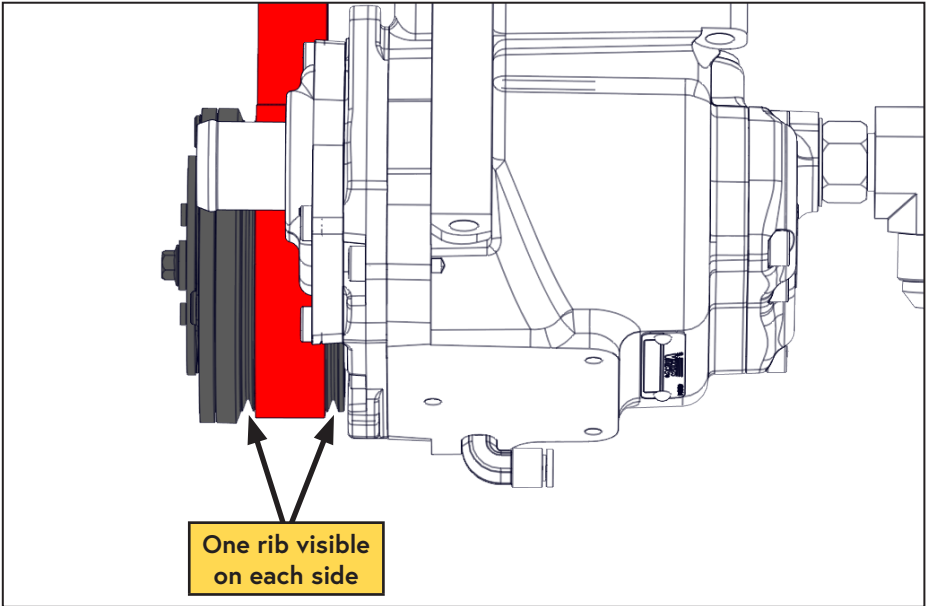

Figure 20 — Compressor belt alignment
- Ensure the belt spans the middle 6 ribs of the compressor pulley leaving 1 rib visible on each side of belt (Figure 20).